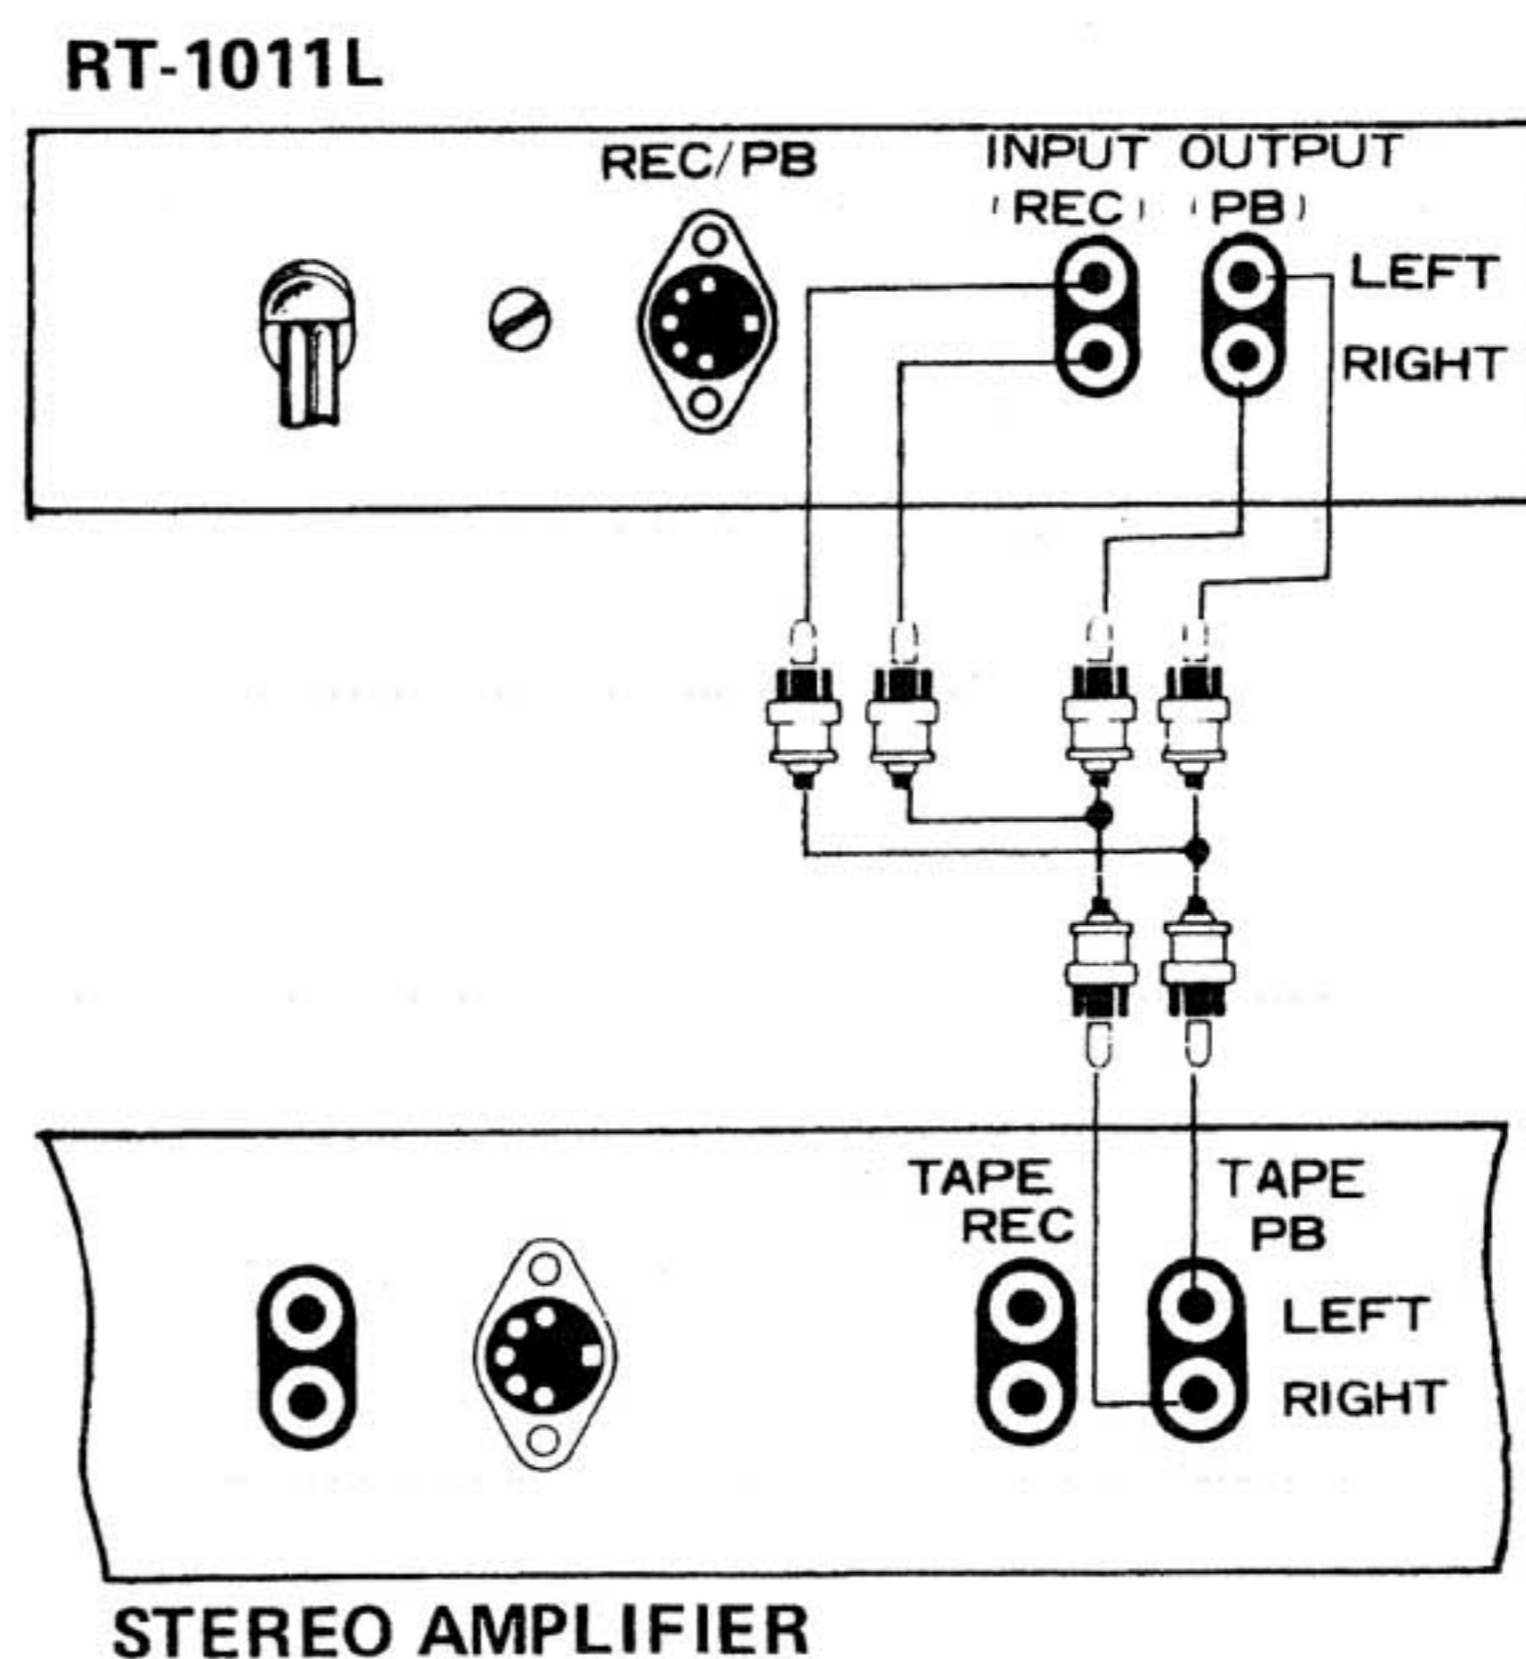

Fig. 44
2. Connect RT-1011L rear panel jacks and stereo amplifier input terminals as follows (Fig. 44).